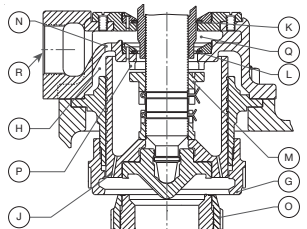

Figure 8: Closing
When closing, as in Figure 8, the spindle overlap collar (K) is adjusted so that it moves down into the floating washer (L), thereby effectively reducing the escape of steam from chamber (H).